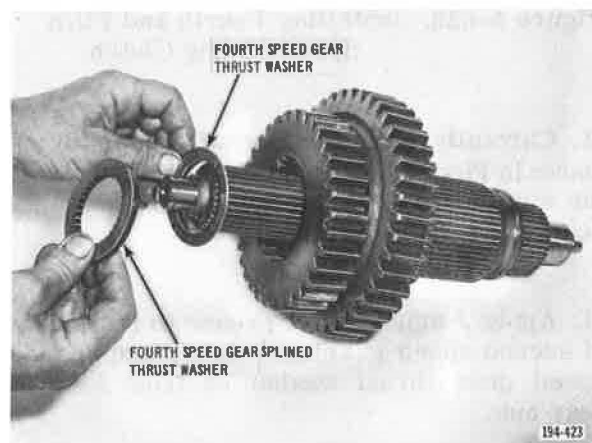

Figure 5-636. Installing Fourth Speed Gear Thrust Washer and Splined Thrust Washer
10. Install fourth speed gear thrust washer and splined thrust washer. Then retain assembly with fourth speed gear retaining snap ring. See Figures 5-636 and 5-637.